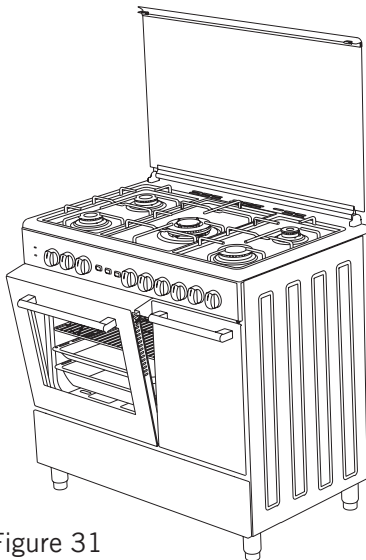

Figure 31
4. And then secure the safety panel in between oven and front cover by gently closing the cover.(Figure 31)